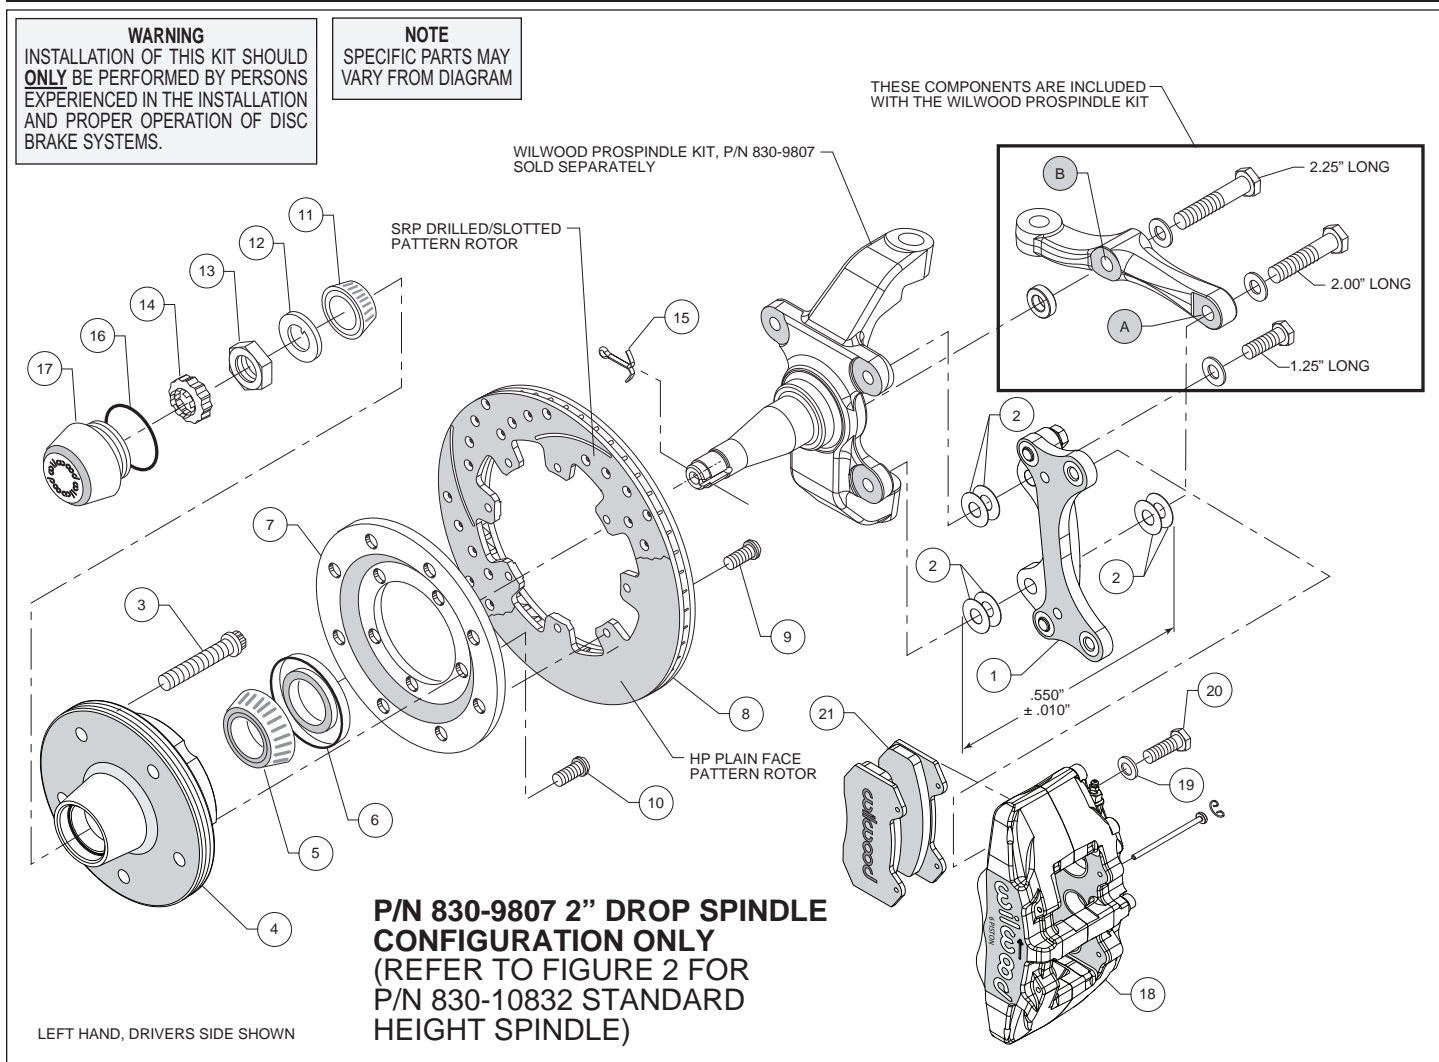

Figure 1. Installation Configuration for Drop Spindle, P/N 830-9807
P/N 830-10832 STANDARD HEIGHT SPINDLE CONFIGURATION ONLY (REFER TO FIGURE 1 FOR P/N 830-9807 DROP SPINDLE)
Assembly Instructions (numbers in parenthesis refer to the parts list and Figures 1 and 2 on the preceding pages):
- NOTE:** Each Wilwood ProSpindle kit includes bolts, washers, and a spacer to mount the steering arm and caliper bracket. The various bolts are identified by length in the following instructions and in Figures 1 and 2.
- Orient the bracket as shown in Figure 1 and Photo 1. Install at top spindle hole using 1.25" long bolt and .06" thick washer (from ProSpindle kit), and two .016" thick shims (2) between the bracket and spindle, Figure 1.
- Orient the steering arm, and identify the hole marked 'A', as shown in Figure 1. Install at bottom spindle hole using 2.00" long bolt, .06" thick washer (from ProSpindle kit), two .016" thick shims (2) between the steering arm and the bracket, and another two more .016" thick shims (2) between the bracket and spindle, Figure 1. The bracket is located between the steering arm and spindle. **NOTE:** *The bracket and shim washers must add up to a total thickness of .550" ± .010", Figure 1.*
- Finish attaching the steering arm through the hole marked 'B', as shown in Figure 1. Install using 2.25" long bolt, .06" thick washer, and .25" thick spacer (all from ProSpindle kit), Figure 1.
- Install the grease seal (6) by pressing into the backside of the hub (4), flush with the end of the hub, Photo 4.
- Orient the rotor (8) and the rotor adapter (7) as shown in Figure 1 or 2 and Photo 5. Attach the rotor to the adapter using bolts (9). Using an alternating sequence, apply red *Loctite*® 271 to the threads, and torque to 25 ft-lb.
- Mount the adapter/rotor assembly (7 and 8) to the hub (4) using bolts (10), as shown in Figure 1 or 2 and Photo 6. Using an alternating sequence, apply red *Loctite*® 271 to the threads, and torque to 45 ft-lb.
- Pack the small outer bearing cone (11) with high temperature disc brake bearing grease and install into front of hub (4), Photo 7. Slide the hub/rotor onto the spindle. Secure using spindle washer (12) and adjusting nut (13). Bearing adjustment: Tighten the nut while turning the hub. When there is a slight bind on the bearings, they are seated correctly. Back the nut off about 1/6 to 1/4 of a turn, or sufficiently to allow .001" to .007" end play. **WARNING:** Failure to back off adjusting nut could cause bearing to run hot and be damaged, which could cause the wheel to lock or come off. Install spindle nut retainer (14) and new cotter pin (15).
- Screw dust cap (17) into hub (4), Photo 8. Friction created by the o-ring (16) on the dust cap keeps it from unscrewing. **NOTE:** The O.D. of the existing OEM spindle washer may be larger than the I.D. of the dust cap not allowing it to seat against the hub face. Therefore, use the spindle washer (12) supplied with the kit instead of the OEM washer.
- NOTE:** Please reference the caution statement at the beginning of the assembly instructions. This kit contains distinct right and left hand calipers that must be mounted in a specific direction, as described below. Mount the caliper (18) onto the caliper bracket (1) using washers (19), and bolts (20) as shown in Figure 1 or 2. Ensure that the caliper is mounted so the largest pistons are at the rotor exit end of the caliper, in relation to the direction of rotor rotation. Temporarily tighten the mounting bolts and view the rotor (8) through the top opening of the caliper (18). The rotor should be centered in the caliper, Photo 9. If not, proceed as follows:
- Adjust by adding or subtracting shims (2) between the bracket and the spindle. Always use the same amount of shims on each of the two bolts between bracket and spindle.
- For the lower bracket mount bolt, if a shim was added between the bracket and spindle, then a shim must be removed between the steering arm and bracket, such that the total thickness of bracket and shims remain equal to $.550 \pm .010$ ", Figure 1.